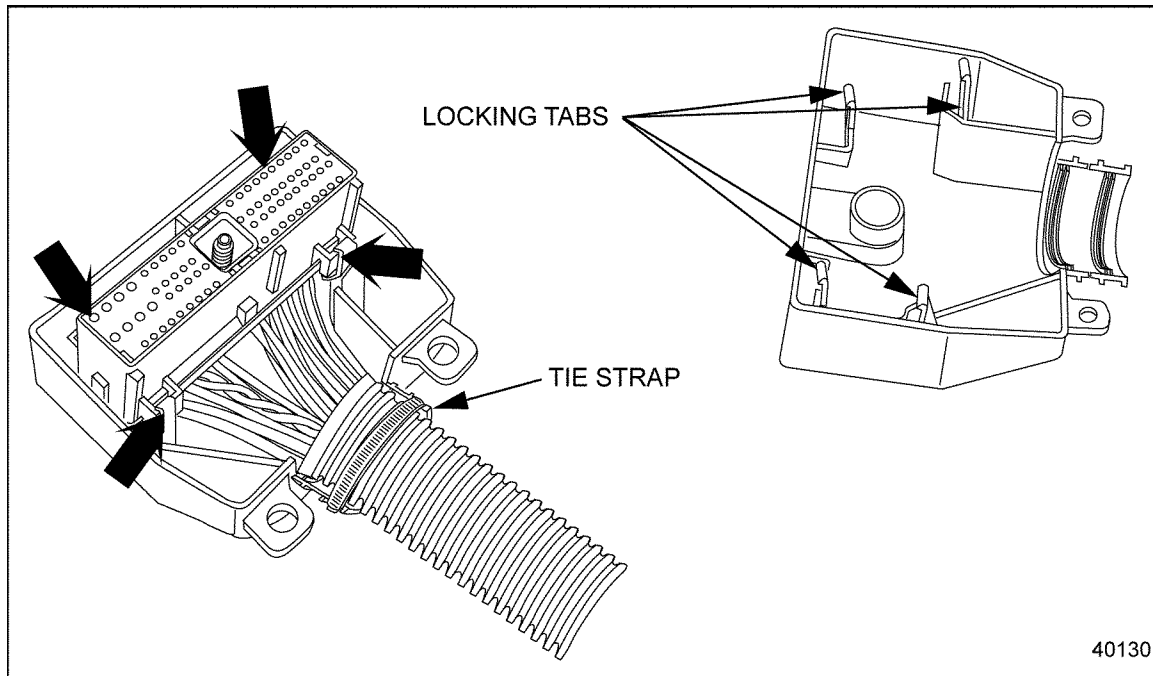

Figure 16-33 Shroud Tabs
4. The two locking tabs in the shroud furthest from the wire inlet must be securely latched into the connector. The two tabs closest to the wire inlet should be snapped over the connector tabs (see Figure 16-33).